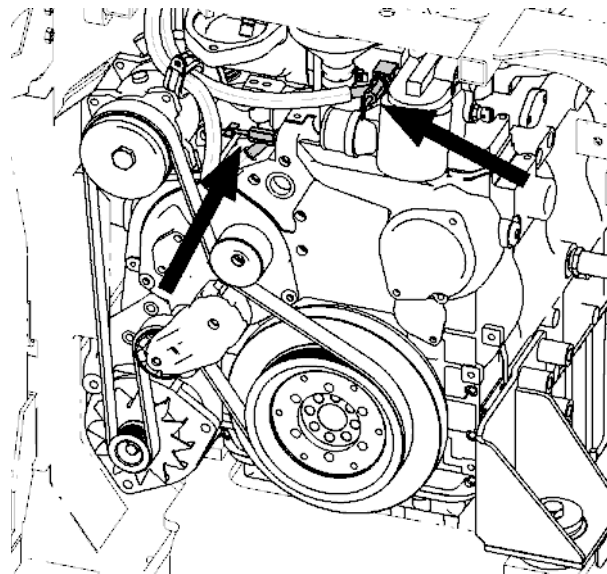

Fig. 5-18 Cooling circuit shutoff valves
- ▶ Open the shutoff valves for the coolant circuit (siehe Fig. 5-18).